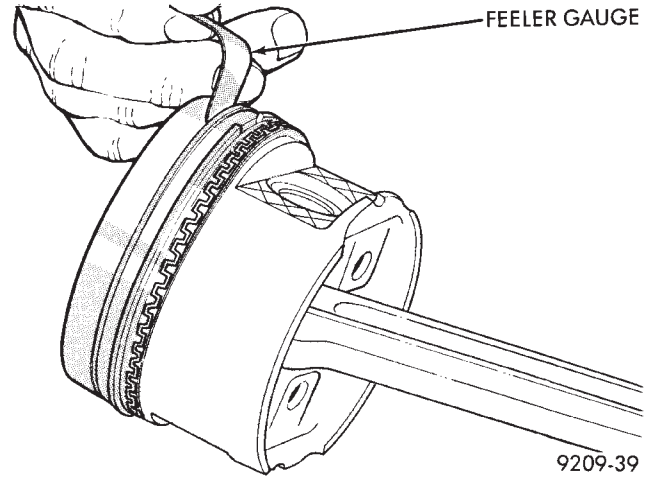

Fig. 5 Piston Ring Side Clearance
(2) Check piston ring to groove side clearance (Fig. 5). Refer to specification in Piston Ring Specification Chart.